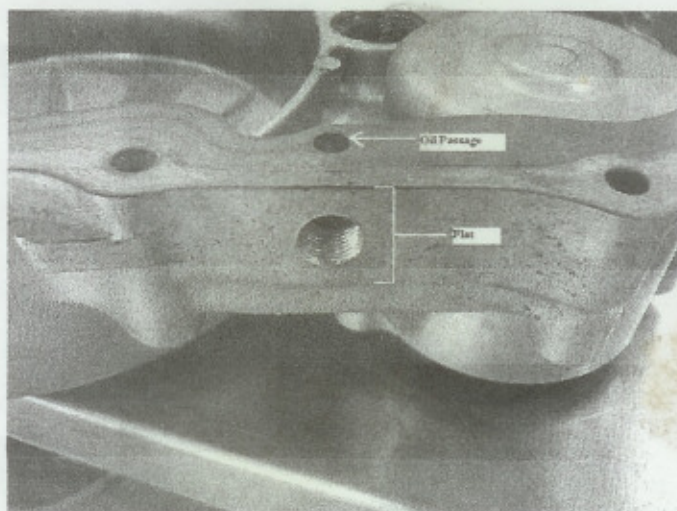

Fig. 5
- There is a flat (Fig. 5) about an inch wide where the cover matches up with the engine, on the engine side you'll see where the oil passage exits the cover (Fig. 5), center your punch on the 1 inch flat and align it with the center of the oil passage, mark and the drill with a 11/32 drill just until the passage is exposed, proceed slowly and be sure not to drill through the bottom of the passage.